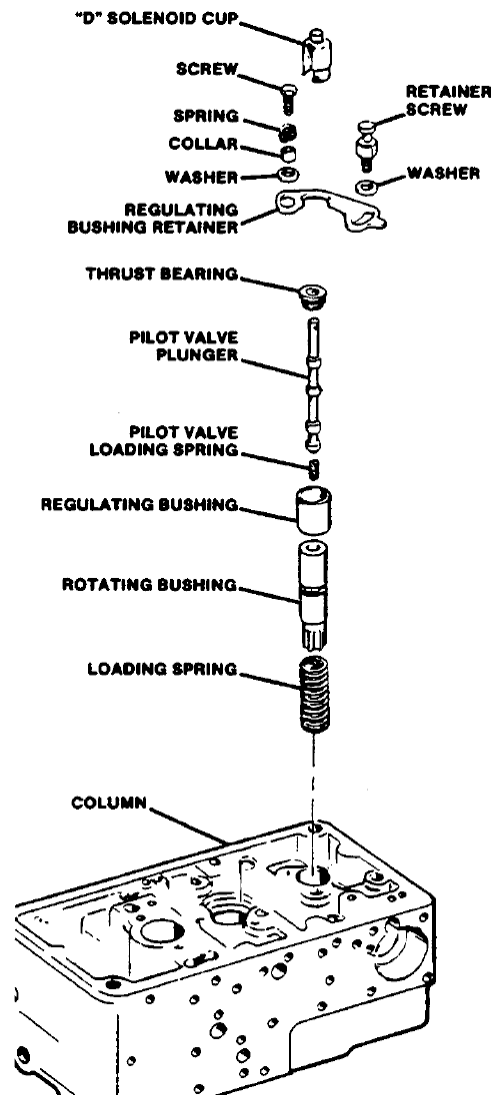

Figure 5-54. Speed Setting Valve
30. Insert loading spring, rotating bushing, regulating bushing, small pilot-valve loading spring, pilot-valve plunger, and thrust bearing (Figure 5-54. Install thrust bearing with large race on top.